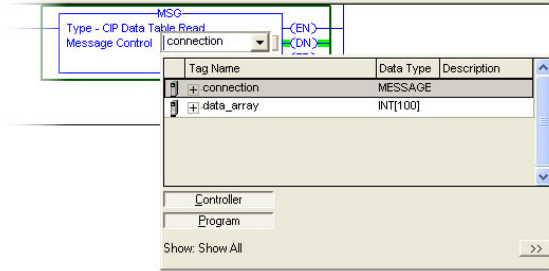

Figure 97: MSG Instruction Tag Assignment
- Edit the “Message Control” field on the MSG instruction to use the previously-created “connection” tag. Refer to Figure 97.